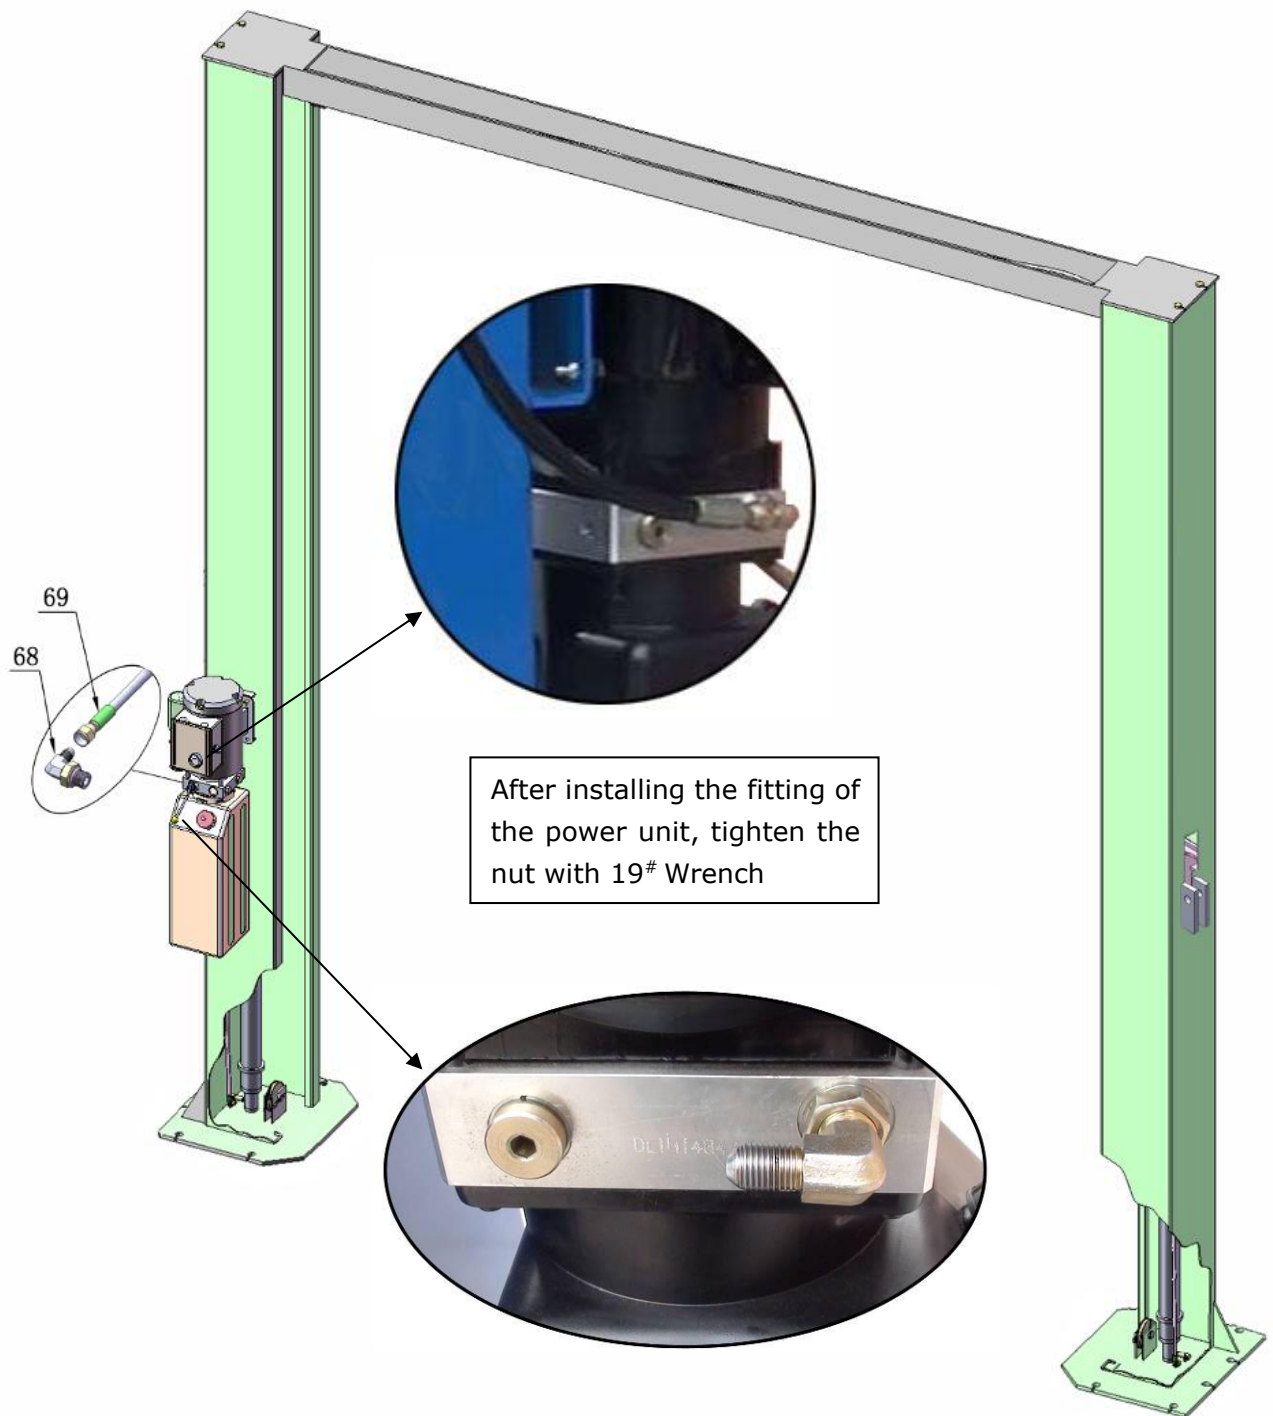

Fig. 22
O. Install power unit and oil hoses (See Fig. 22)